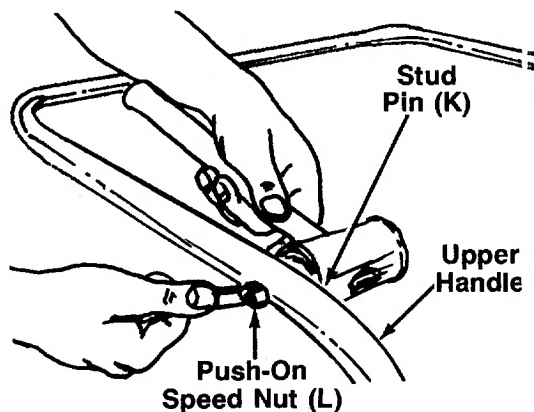

FIGURE 7.
1. Place the stud pins (K) in holes in upper handle (head of pins go to the inside of handle). Secure pins with push-on speed nuts (L) by holding speed nut with box wrench and tapping pin with hammer. See figure 7.